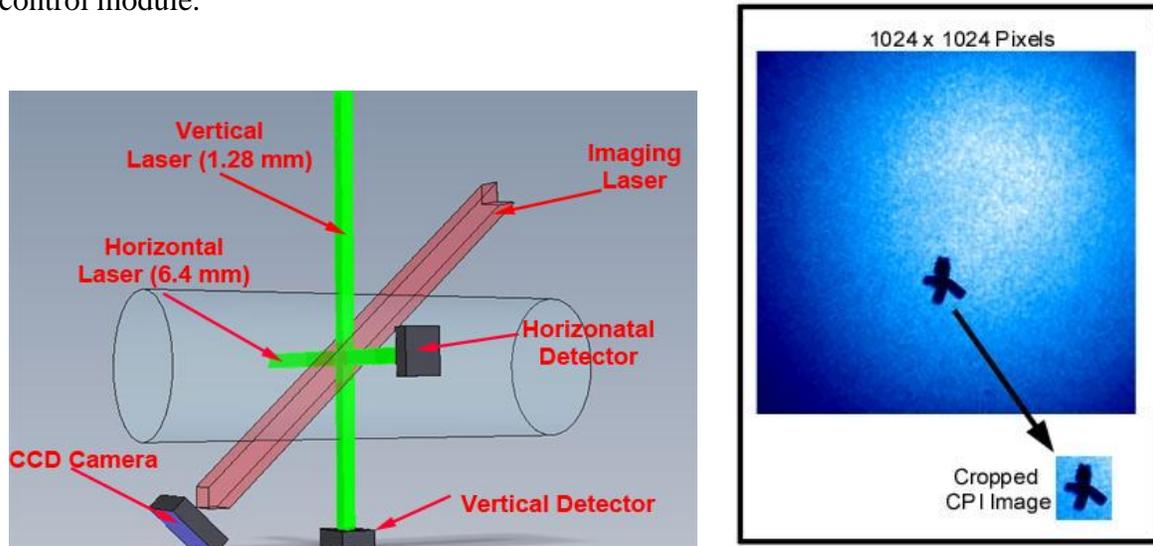

Figure 1.1.2. 3-D portrayal of optics and exposed image of the CCD camera when a particle is present.
Figure 1.1.2 shows the primary electro-optical components in the 3V-CPI. The upper left diagram shows a 3-D rendering of the 3V-CPI sample volume. Two ribbon-shaped intersecting laser beams form the 2D-S laser array, one horizontal (90) and one vertical (45). Both lasers are functionally identical. The object plane for the imaging CCD camera is located on the trailing edge of the 2D-S beam intersection.
Upon instrument startup, the imaging system pulses the imaging laser and captures a full frame background CCD image in the absence of cloud particles. The background image is stored and used to process subsequent frames thought to contain a particle image. The background CCD image is shown on the right side of **Figure 1.1.2**.
ROIs are locations in the image where particles are present. The image processing algorithm subtracts the stored background image from the newly acquired frame. If the subtraction results in any areas of the CCD image greater than a predefined minimum pixel size with a shadow depth greater than a user selectable particle threshold, these areas are cropped from the full frame. **Figure 1.1.2** shows an example of an ROI that was cropped from the image frame. The ROIs are cropped from the picture and stored in the current data file on the hard disk. This keeps the data files as small and compact as possible.